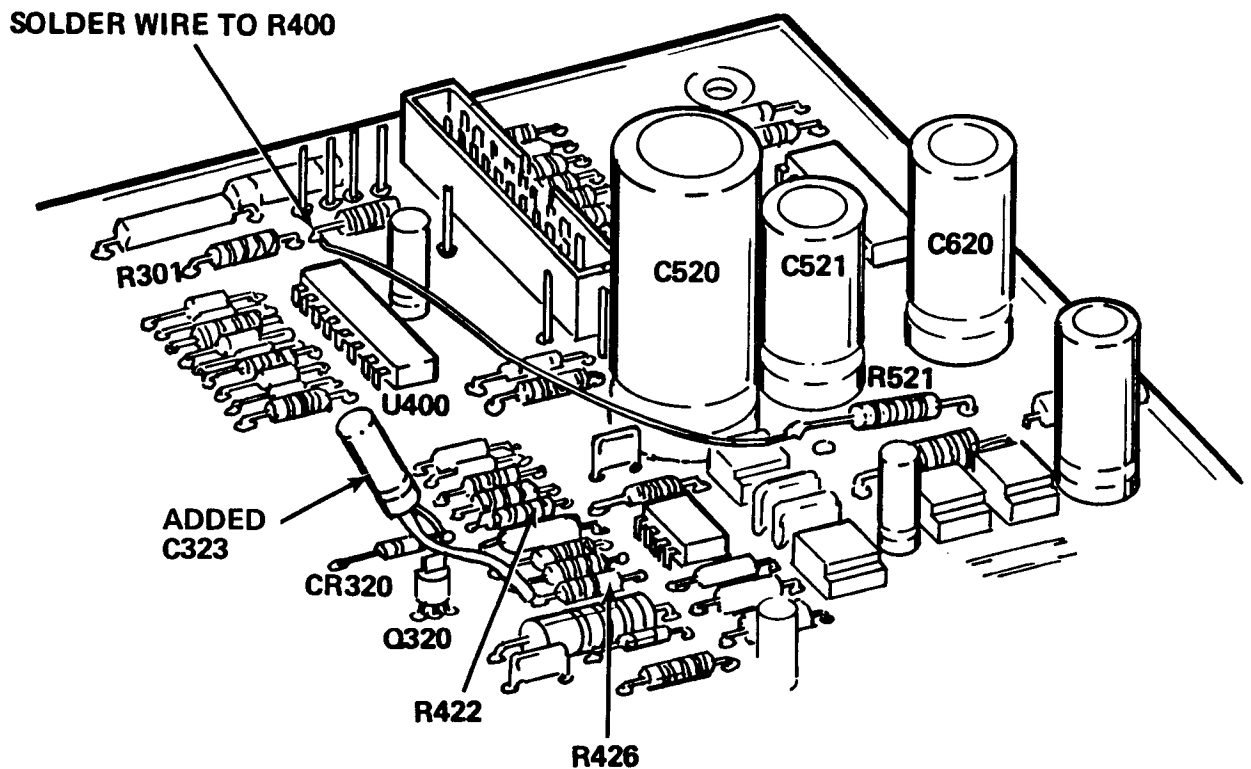

Figure 17. CRT Driver circuit board A8.
- ( ) 10. Remove R521, a 2.7 $\Omega$ , resistor and replace with a 12 $\Omega$ , resistor, pn 315-0120-00, that is provided in this kit. Solder one lead of R521 to the circuit board pad from which R521 was removed nearest C620. Solder a length of blue 30 AWG wire to the remaining lead of R521. Solder the remaining end of the wire to the circuit board pad common to R400 nearest to R301, refer to Figure 17.